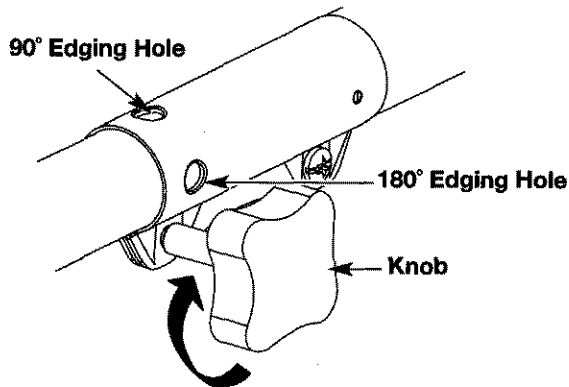

Fig. 14
3. Turn the knob clockwise to tighten (Fig. 14).
For edging when using the line head cutting attachment with Click-Link® models, lock the release button of the cutting attachment into the 90° edging hole or the 180° edging hole (Fig. 14).